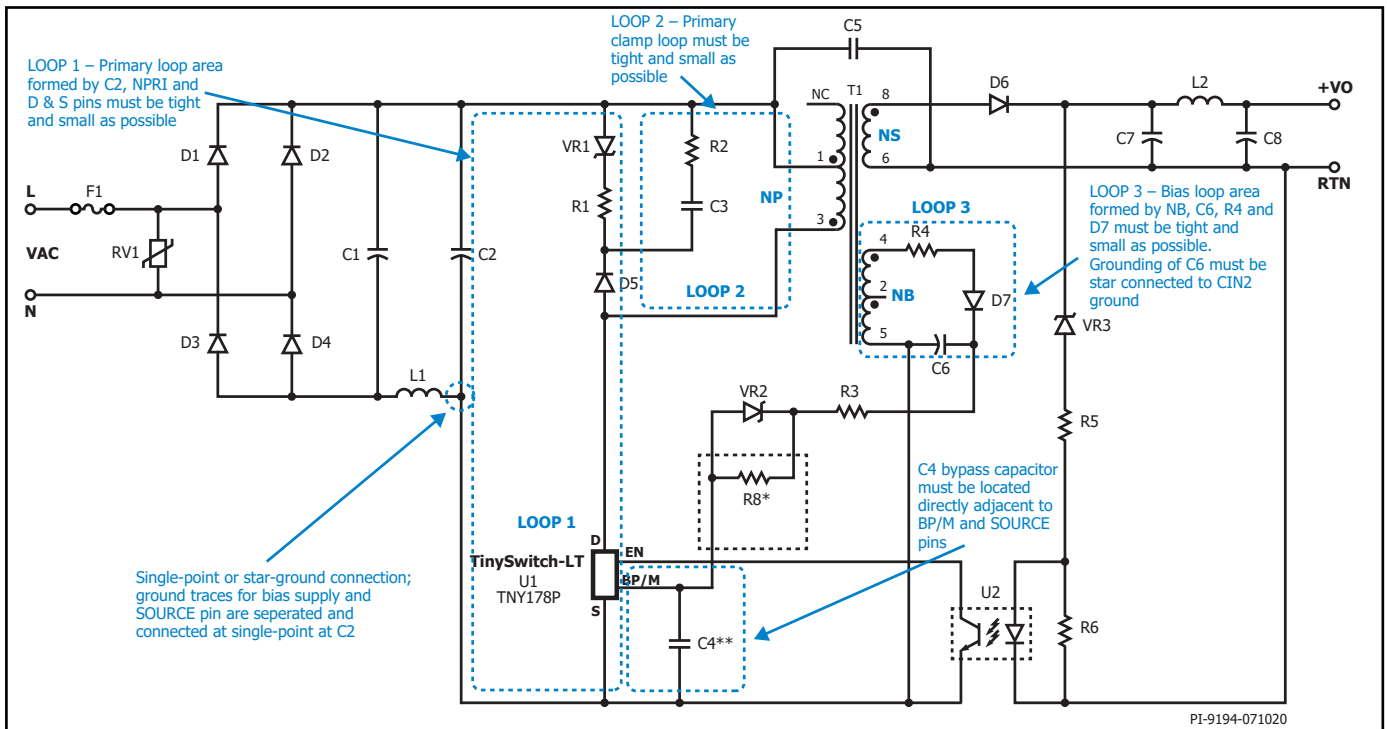
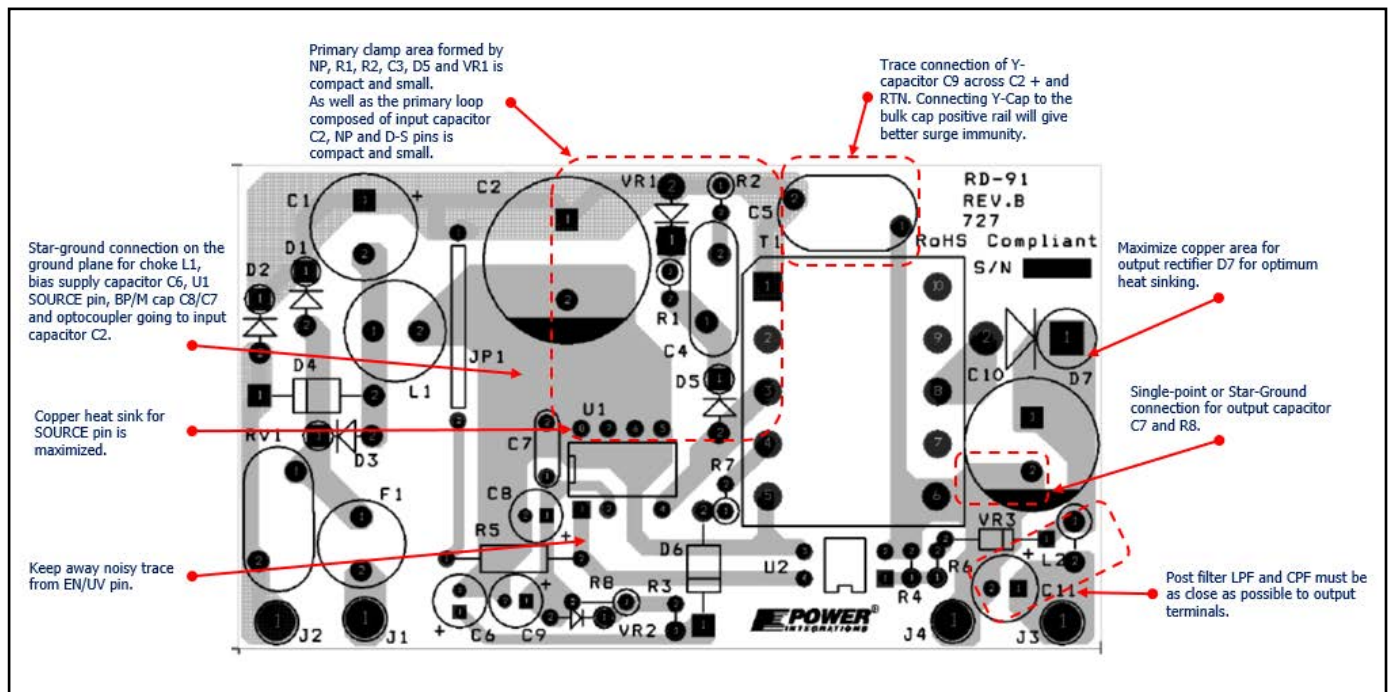

Figure 41. Primary-Side Typical Schematic of TinySwitch-LT Showing Critical Loops Area, Critical Component Traces and Single-Point or Star Grounding.
Figure 43. TinySwitch-LT Layout Guidelines.
1. Appropriate component placement and small loop areas of the primary and secondary power circuits help minimize conducted and radiated EMI. Care should be taken to achieve a compact loop area. See Figures 41, 42 and 43 for reference.
4. Separate the ground trace of optocoupler U2 from the ground trace of bias capacitor C6. The two ground will be star-connected at the bulk capacitor C2 ground plane. This minimizes coupling of ESD. See Figure 43 for layout and component placement reference and Figure 41 and 42 for schematic reference (primary and secondary-side).
See Figures 41, 42 and 43 for a recommended circuit board layout for TinySwitch-LT.
If a 0.1 μF bypass capacitor has been selected it should be a high frequency ceramic type (e.g. with X7R dielectric). It must be placed directly between the ENABLE and SOURCE pins to filter external noise entering the BYPASS pin. If a 1 μF or 10 μF bypass capacitor was selected, then an additional 0.1 μF capacitor should be added across BYPASS and SOURCE pins to provide noise filtering (see Figure 41).
The area of the primary loop that connects the input filter capacitor, transformer primary and TinySwitch-LT should be kept as small as possible. Illustrated in Loop 1 of Figure 41.
A clamp is used to limit peak voltage on the DRAIN pin at turn-off. This can be achieved by using an RCD clamp or a Zener ($\sim 200\text{ V}$) and diode clamp across the primary winding. To reduce EMI, minimize the loop from the clamp components to the transformer and TinySwitch-LT. Illustrated in Loop 2 of Figure 41.
The SOURCE pins are internally connected to the IC lead frame and provide the main path to remove heat from the device. Therefore, all the SOURCE pins should be connected to a copper area underneath the TinySwitch-LT to act not only as a single point ground, but also as a heat sink. As this area is connected to the quiet source node, this area should be maximized for good heat sinking. Similarly, for axial output diodes, maximize the PCB area connected to the cathode. The grounding and copper plating at the SOURCE pins are shown on Figure 43.